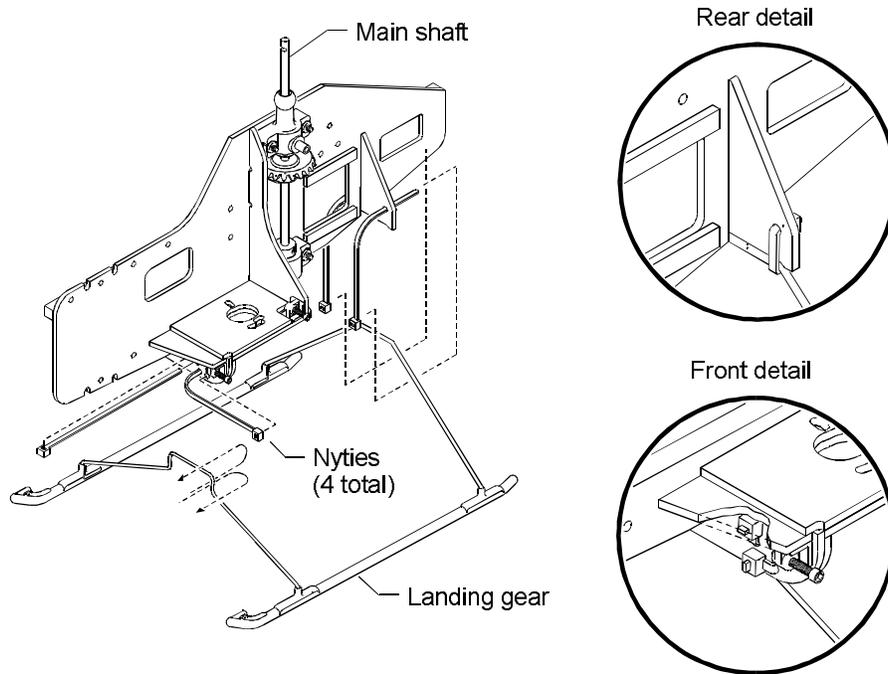

Figure 10-4.
- 12. Attach the landing gear to the crutch with short nylon cable ties (nyties) as shown in Fig. 10-4. Pull the nyties tight with a pair of pliers, and clip the ends.